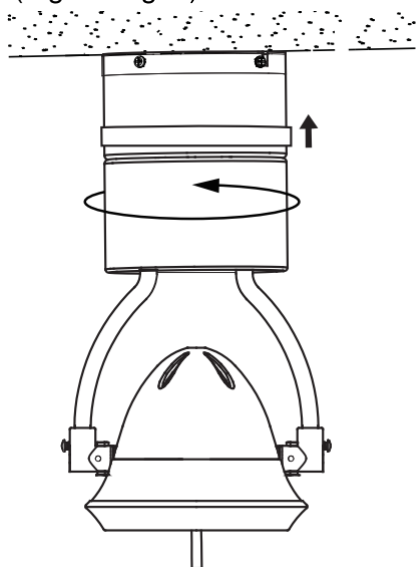
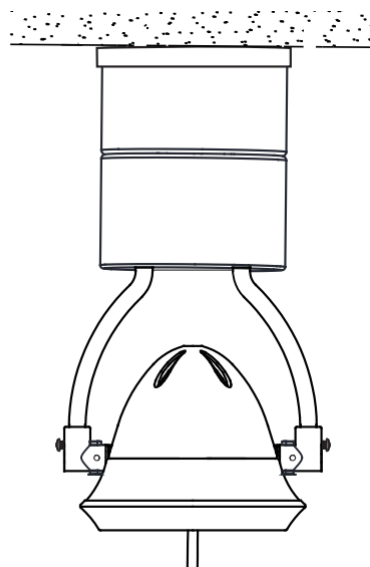

Fig. 9
Fig. 10
- Slide the decorative ring up onto the hanging canopy screws(1)&(2) and attach it on top of hanging canopy(3). (Fig 9& Fig10)